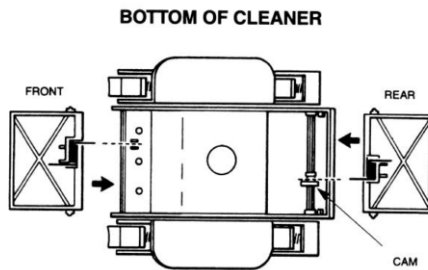

Figure 12
- b) You will notice that your replacement flaps look similar but are marked “Front” and “Rear” on the inside of the flap. Because the springs on the flaps are different, it is absolutely necessary to install the proper flap in the front and rear of the unit. Failure to do so will result in unsatisfactory performance of the Hayward Blu cleaner. When installing the front flap, be sure that the extended leg of the spring is inserted into the notch on the front of the lower body (See Figure 12). Push the flap in place. You will actually feel and hear a snap when the flap is in place. Fold the flap in towards the bottom of the Hayward Blu cleaner. You will feel some resistance at this point which is normal. As the flap snaps into its normal position, you will feel the spring action and notice that the front flap is now in its normal operating position. When installing the rear flap, the extended leg of the spring must fit against one of the flat surfaces of the cam (See Figure 12). After positioning the spring, follow same insertion and folding process as front flap.